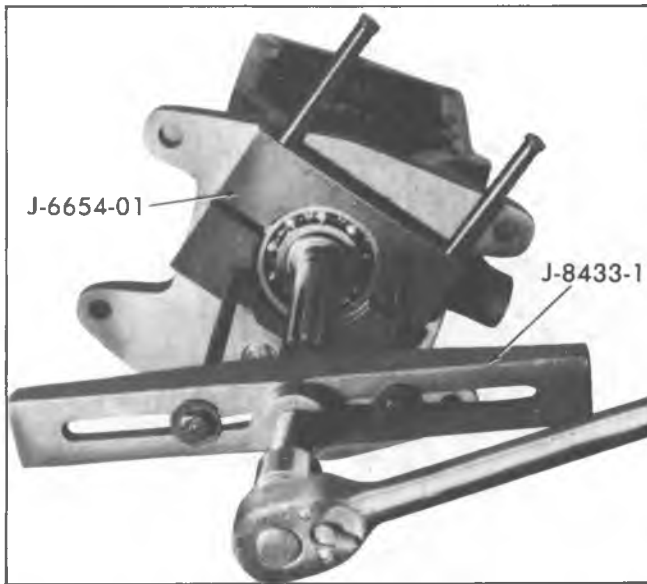

Fig. 7R--Removing Front Bearing
10. Remove clutch shaft front bearing using tool J-6654-01 and tool J-8433-1 (fig. 7R).